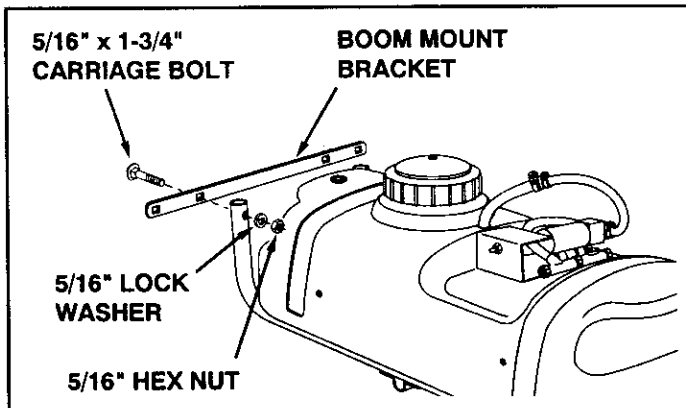

FIGURE 4
- Assemble the boom mount bracket to the rear of the hitch tubes using two 5/16" x 1-3/4" carriage bolts, 5/16" lock washers and 5/16" hex nuts. **Do not tighten yet.** See figure 4.
- **Tighten** the two bolts which fasten the boom mount bracket to the rear of the hitch tubes. See figure 4.